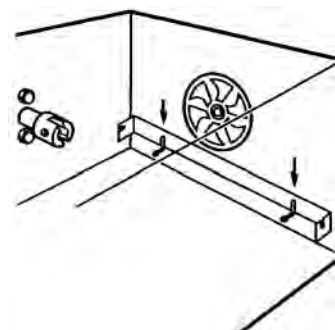

**Figure 2.** Replace Shaker Bracket
- Loosen existing screws at the bottom of the oven back sufficiently to allow slots in bracket to slide down onto screw shafts. Retighten screws to secure back plate. See Figure 2.